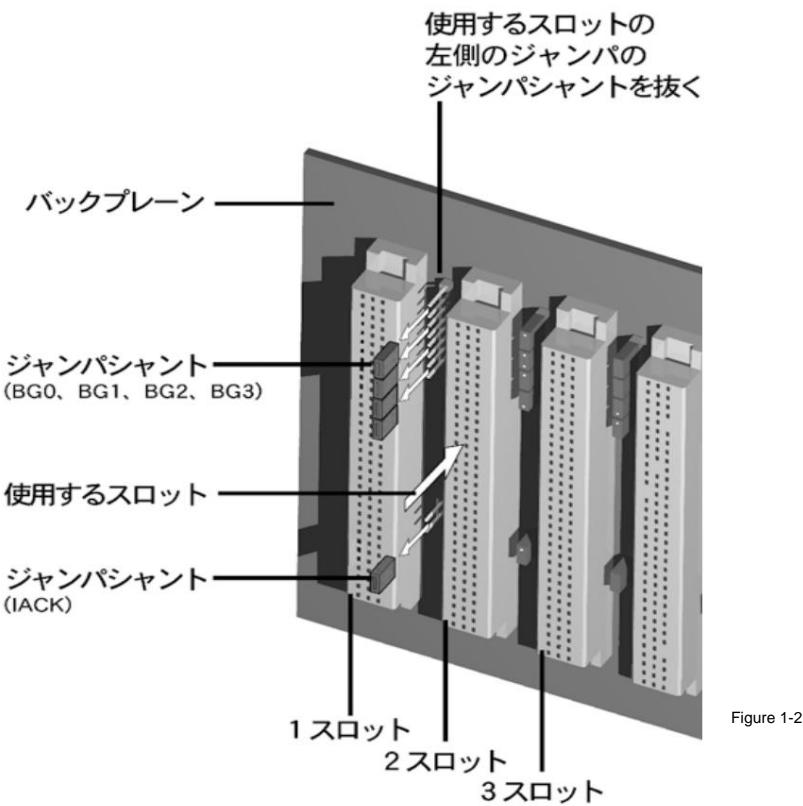

Figure 1-2
a) Check that the jumpers on this module are set correctly. b) Turn off the power to the VME system (rack side) and remove all jumpers (BG0, BG1, BG3, IACK jumpers) on the VME backplane that corresponds to the VME slot where you plan to install this module. (When using a backplane manufactured by our company, the relationship between the slots and jumpers is as shown in Figure 1-2.) c) Insert this module into the slot you will be using